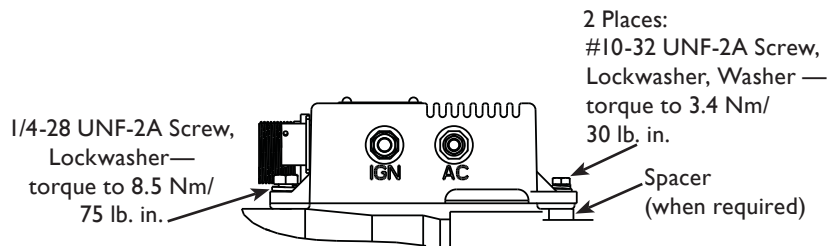

Figure 2 – N3240 Regulator Mounted on Alternator with **English Screws**
- **English** screws—see Figure 2.